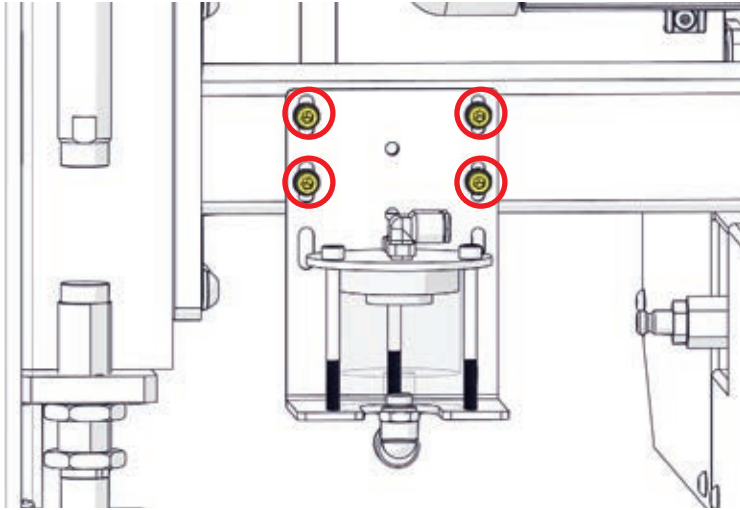

Figure 45: Top Water Level Adjustment 1
8. Disconnect the locking clamps on the electrical supply connector to remove it. (Figure 45 Yellow)
9. Unscrew the pneumatic multi-line connector. (Figure 45 Blue)